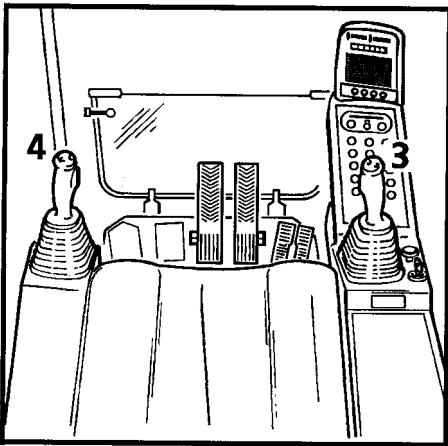

Fig. 24
The right lever (Fig. 24, pos. 3) controls the boom and the bucket movements.
The left lever (Fig. 24, pos. 4) controls the stick and the swing movements